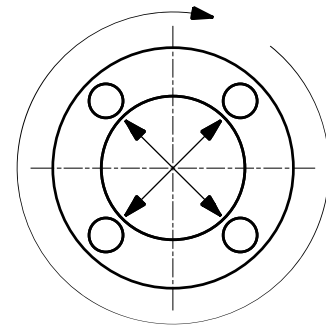

Figure 5.1-2
- 5) Using a torque wrench, gradually tighten diagonally to the values shown in ""Table 5.1-2 Specified Flange Tightening Torque Values"". (Figure 5.1-2)
- 6) Further tighten clockwise at the values shown in ""Table 5.1-2 Specified Flange Tightening Torque Values"" for at least 2 rounds. (Figure 5.1-2)